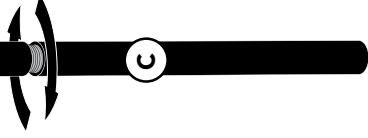

Figure 2
- 2.** Assemble Pole B into Pole C and screw together clockwise to connect. (Figure 2).